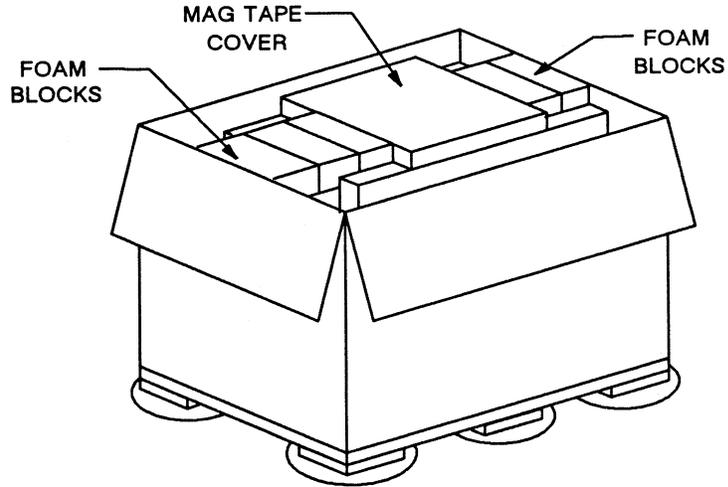

Figure 1-5. Shipping Configuration for the CADDServer Peripherals Cabinet
1. Using the metal shears, cut the steel straps. Open the carton. See Figure 1-5.
Figure 1-5 shows the shipping configuration for a CADDServer Peripherals Cabinet.